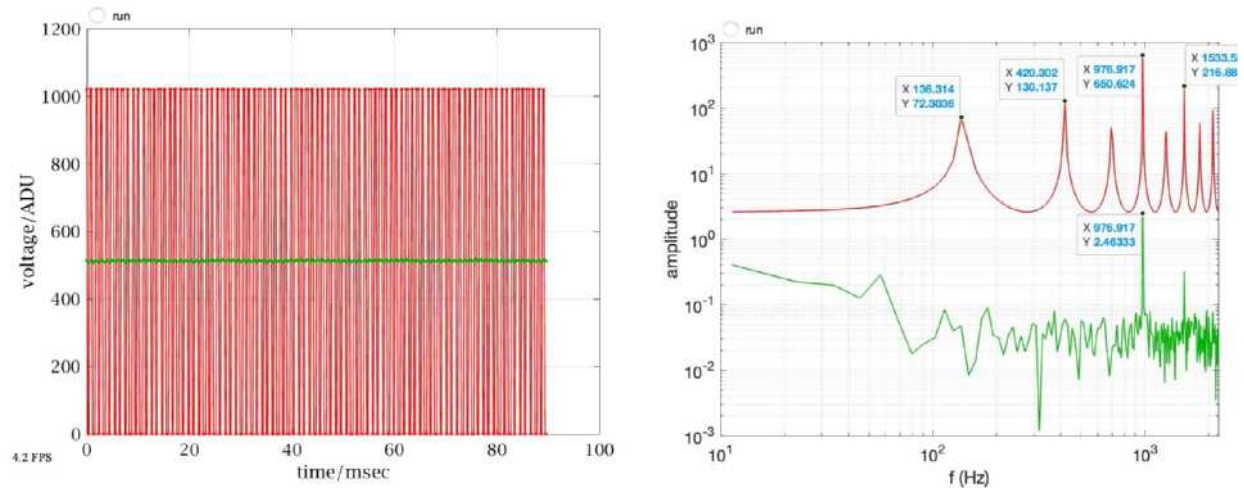
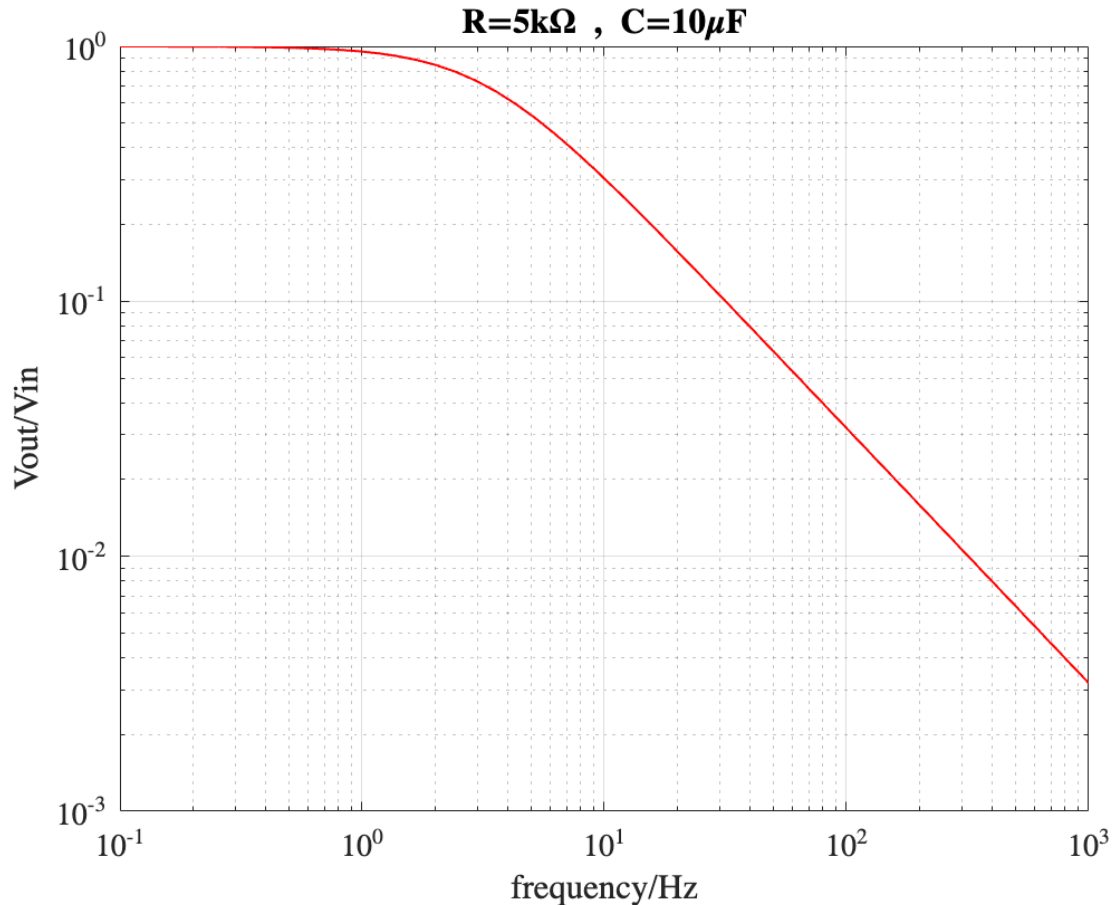

Figure 4. Time series and spectra for PWM = 128.
Figure 5. Modeled gain of our RC filter.
The RC filtered data (Fig. 4 green) has dc amplitude = 513.30 measured above, and *all* of its frequency components are < 1 ADU with the exception of the PWM frequency who's amplitude is 2.46ADU. So this filter exhibits gain at the PWM frequency of $2.46/651 = 3.78e-3$ or an attenuation of 99.6%.
1. We can think of the curve (Fig. 5) as the "transfer function" of the RC circuit, where $V_{out}/V_{in} = \text{gain}$. Since it's a passive circuit, the gain is always less than 1.
But we're still exploring the weeds, here's the *significance* of this model. Our RC filter model predicts gain at the PWM frequency, 976Hz $\sim 3.5e-3$ from the far right side of Fig. 5, *very* close to what was measured by the ratio of the two 976Hz peaks in Fig. 4 ($3.78e-3$).
But back to practicality, we have a fundamental conflict between a filter that settles quickly and one that attenuates the PWM frequency deeply. Moving Fig. 5 left improves PWM attenuation but makes settling slower, and visa versa ... what to do?
What we really need to do is change the *slope* of Fig. 5 – but how? By cascading two RC low pass filters in series, as in Fig. 7.